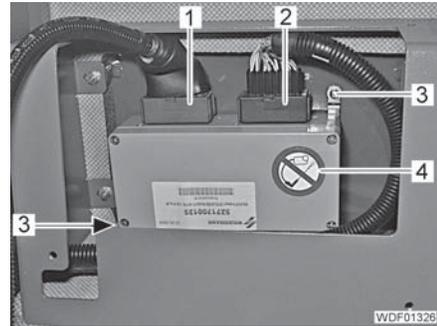

Fig. 452 Control unit attachment
- Pull 2 plugs (Fig. 452,1 and 2) off the control unit.
- Unscrew the 2 screws (Fig. 452,3).
- Remove the control unit (Fig. 452,4).
- Place the control unit (Fig. 452,4) into position.
- Screw in 2 screws (Fig. 452,3) with spring lock washers and disks.
- Insert 2 plugs (Fig. 452,1 and 2) on the control unit.